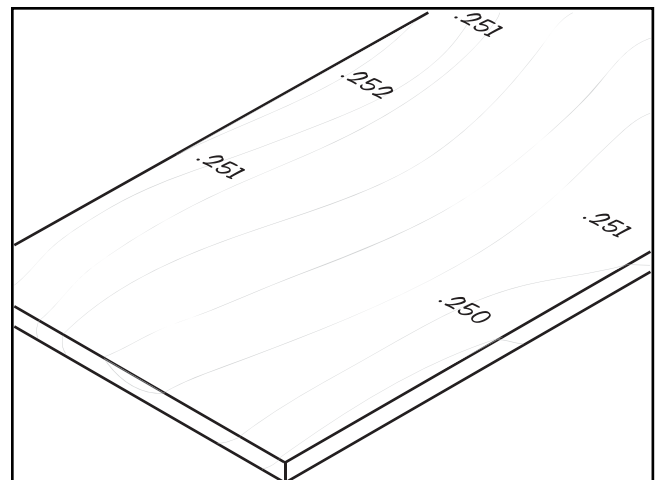

Figure 39. Test board with measurements.
2. Using a dial caliper, measure the thickness of the cut piece at all four corners and in even locations along the edges of the stock. As you take these measurements, write them directly on the stock, near the location where you took the measurement (see **Figure 39**).